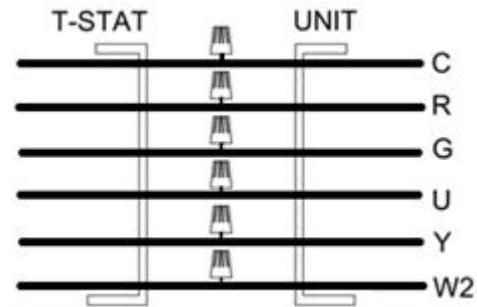
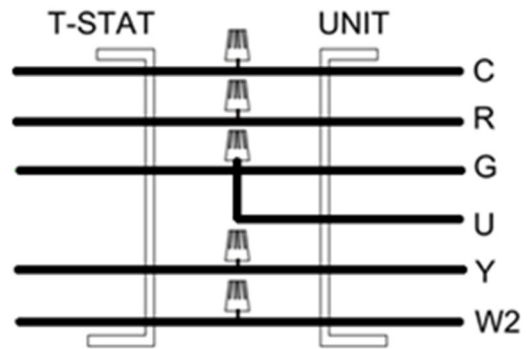

FIGURE 18 - Ventilation Thermostat Connections
FIGURE 19 - Non-Ventilation Thermostat Connections
A 24 VAC Ventilation thermostat is required to operate the FRESH-PAK unit (**FIGURE 18 - Ventilation Thermostat Connections**). A minimum 24 VAC Thermostat is required with a fan signal (G) in all operating Modes (**FIGURE 19 - Non-Ventilation Thermostat Connections**). Thermostat connections and functions are as follows: